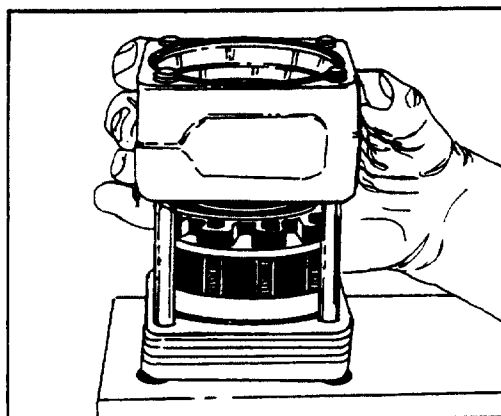

FIGURE 20.
24. Remove the metering ring (17) and discard the two seal rings (3). See figure 20. If the metering ring bore is scored, it should be replaced.